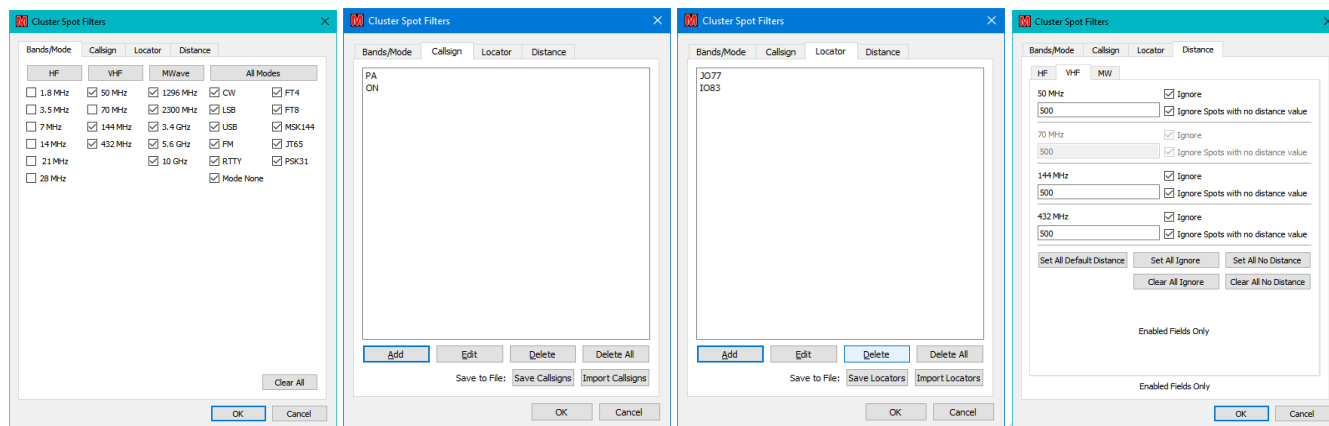

Figure 150 – Setting up filters
The content of the display can be controlled by clicking the **“Filters”** button and adjusting the Band/Mode of interest or the callsigns/locators to be watched and the distance constraints (see Figure 150).
The Distance filters further restrict the spots displayed on the basis of the specified maximum ranges¹²⁸. Note in Figure 150 (4) that the 70MHz box is disabled because 70MHz is not selected in in Figure 150 (1).